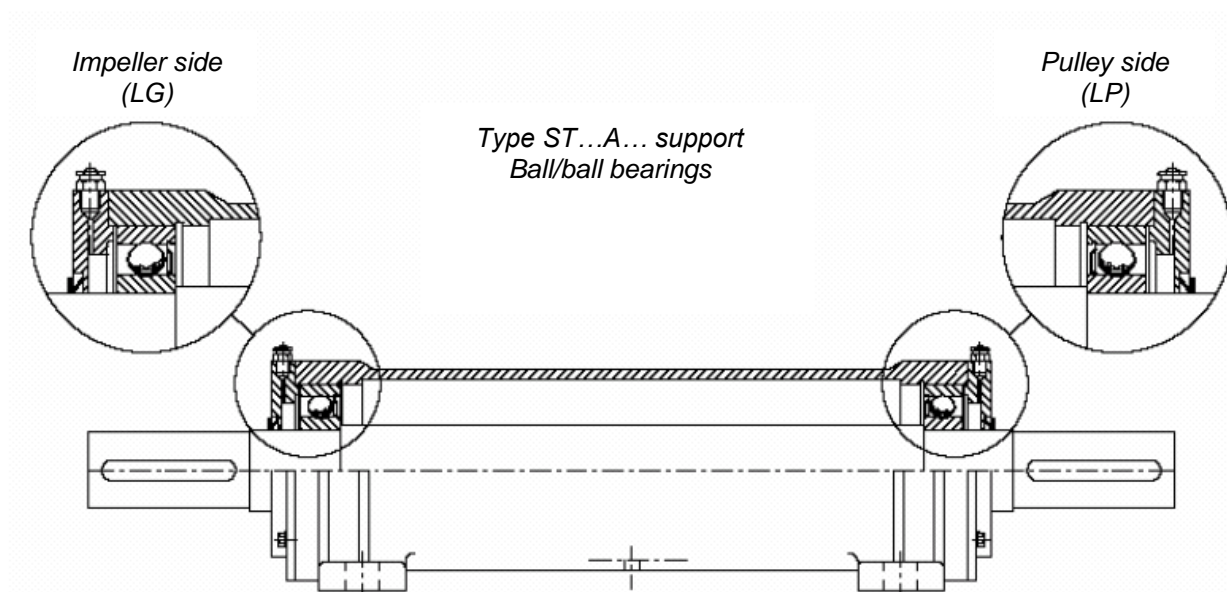

Fig. 10-10 ST...A... one-piece support with radial ball bearings both on impeller side and transmission side
- Type ST...A... support with rigid ball bearing on transmission side (Fig. 10-10).